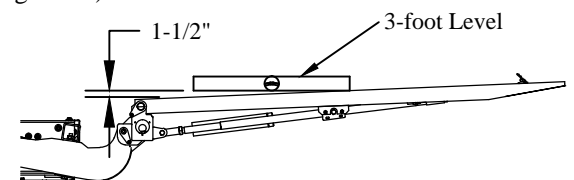

Figure 17: Platform position.
- Adjust** the passenger side support arm so that the platform is 1-1/2" from level over a 3-foot length (Figure 17). Adjustment similar to folding cylinder.